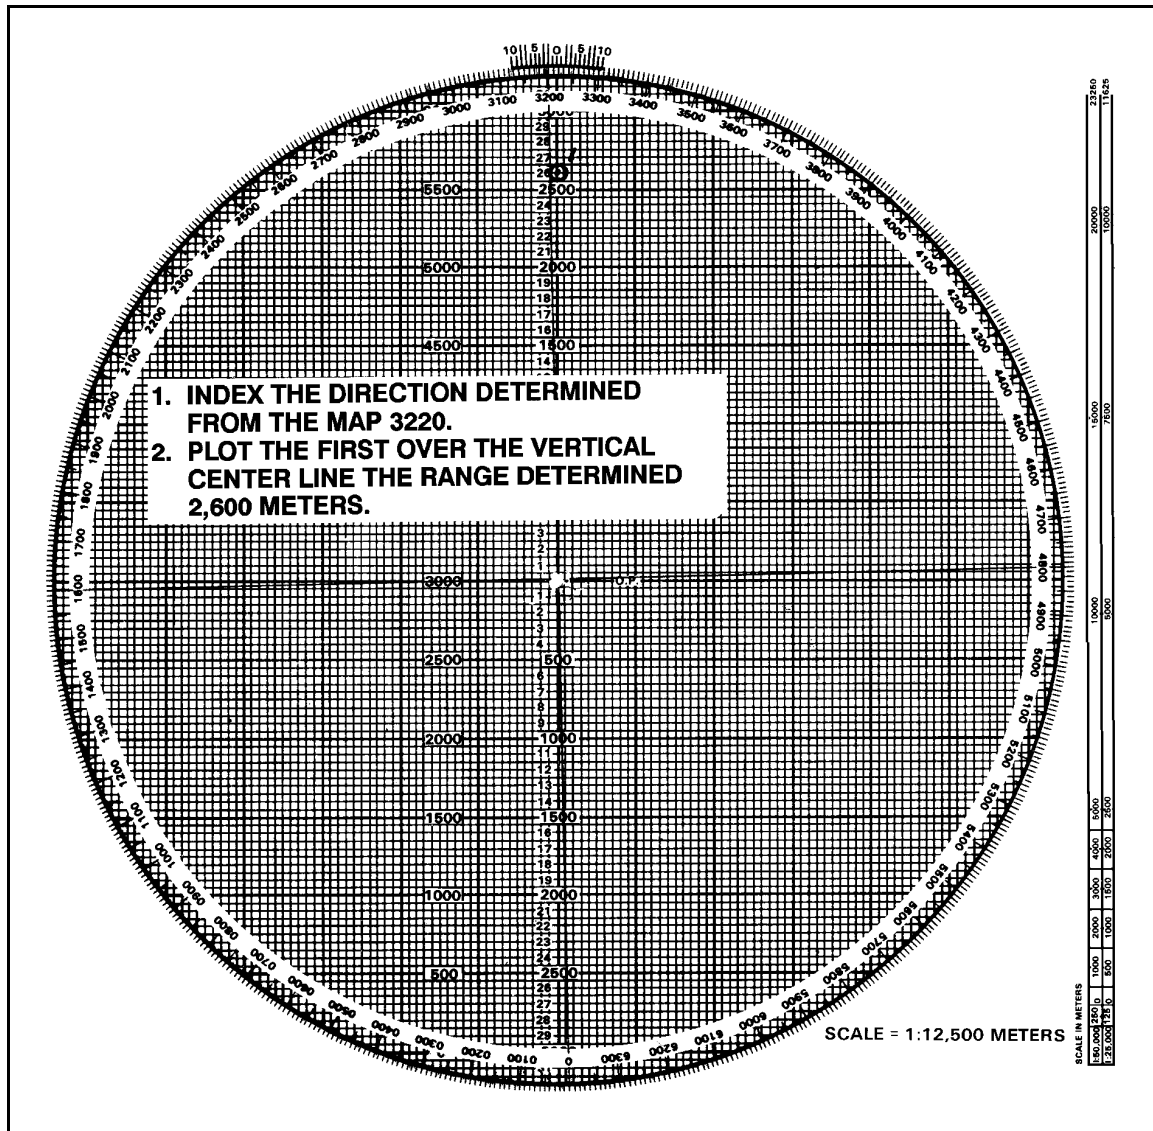

Figure 12-1. Preparation of the plotting board.
(1) *Preparation of the plotting board.* Two items are needed to set up the plotting board for operation: a direction (azimuth) and a range from the mortar position to the target. The azimuth and range from the mortar position to the target are usually obtained from a map by plotting each position and then determining the grid azimuth and range. That information is then transferred to the plotting board (Figure 12-1). For example, the computer determines the initial direction (azimuth) between the mortar position and target is 3220, and the range is 2,600 meters.